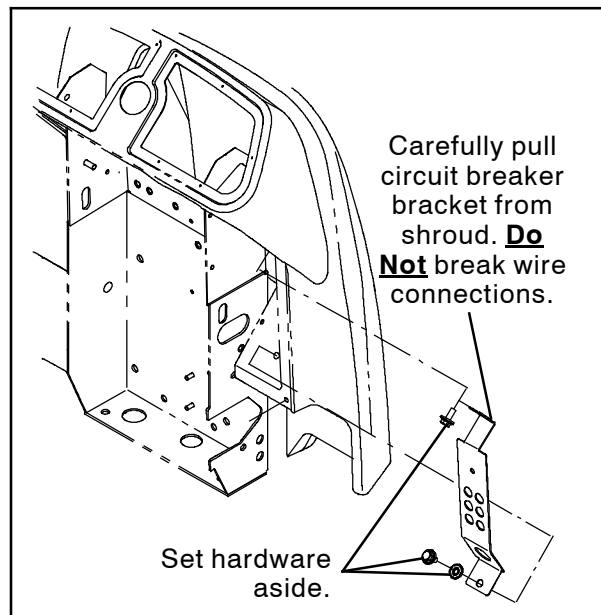

FIG. 5
27. Carefully pull circuit breaker bracket out far enough to access the main wire harness connectors located behind the bracket. **Do Not** break any wire connections. (Fig. 5)
36. Reinstall the circuit breaker bracket onto the machine. (Fig. 5)